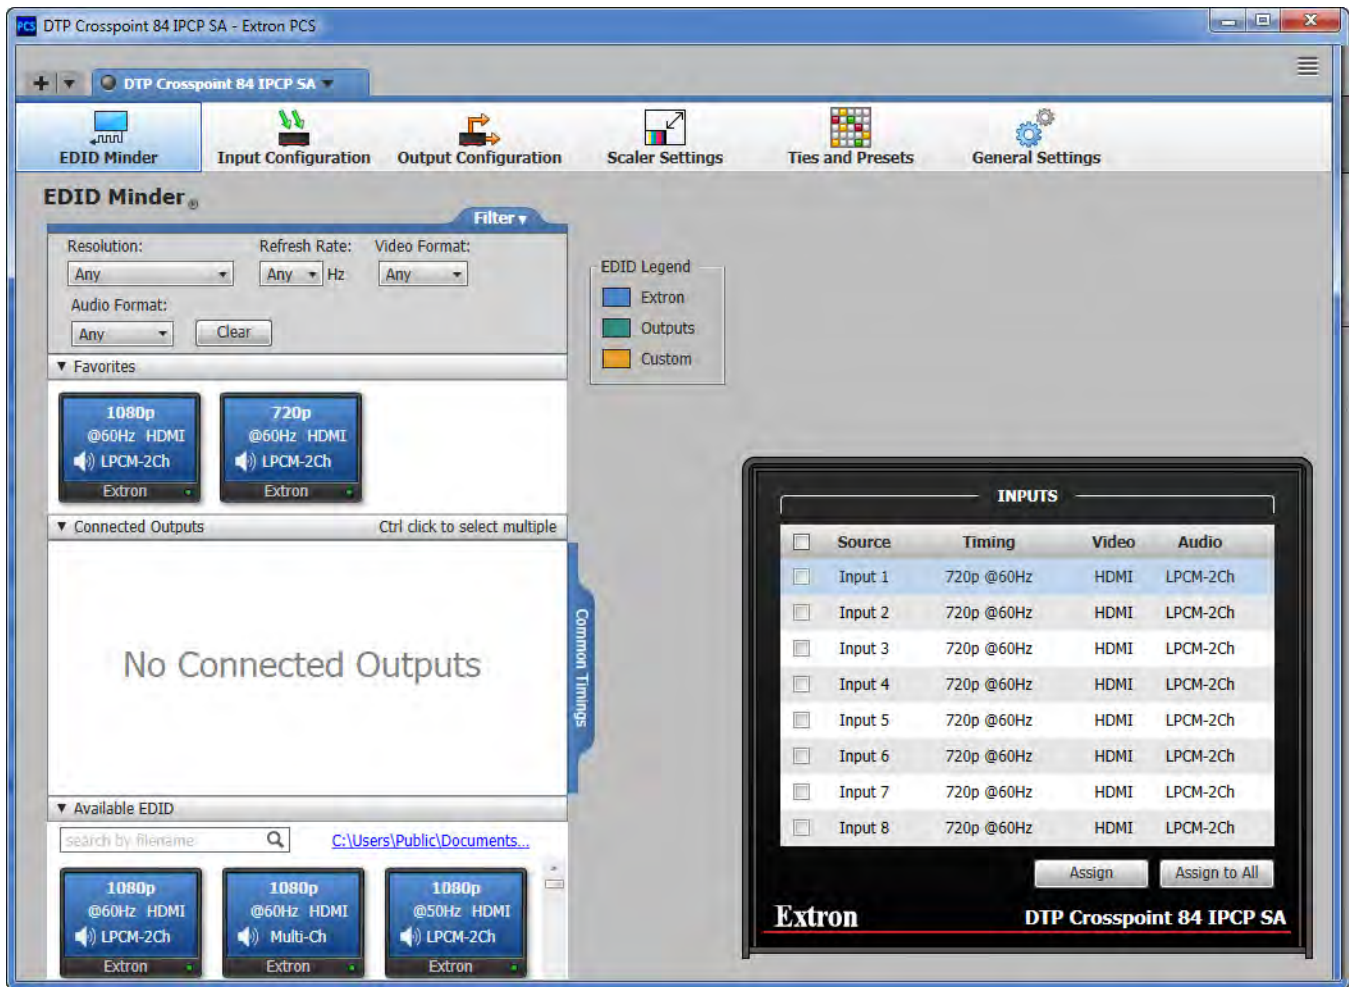

Figure 36. Product Configuration Software (DTP CrossPoint 84 Shown Connected)
2. Select (click) your DTP CrossPoint and click **Connect** (see figure 35). The Product Configuration Software opens to the EDID Minder page (see **figure 36** on the next page).